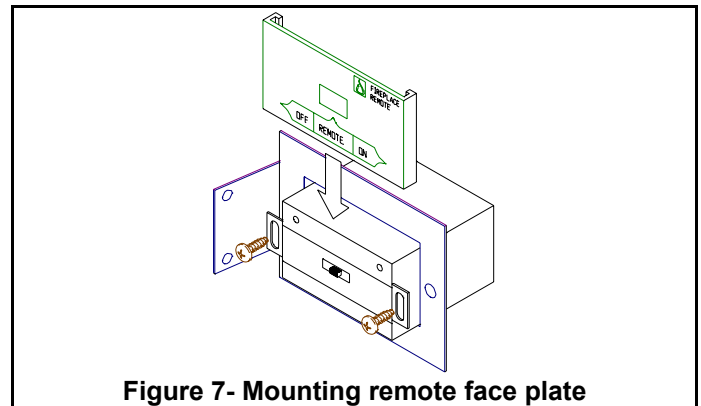

Figure 7 - Mounting remote face plate
Woodwork, such as wood trims, mantels and other combustible material, must be installed as tested per figures 7 and 8, page 8.
3. Open hinged lower panel by releasing catch. Attach remote assembly to inside left side of the fireplace. Remote assembly can be secured to wall using (2)#8 Phillips screws (**Fig 7**).